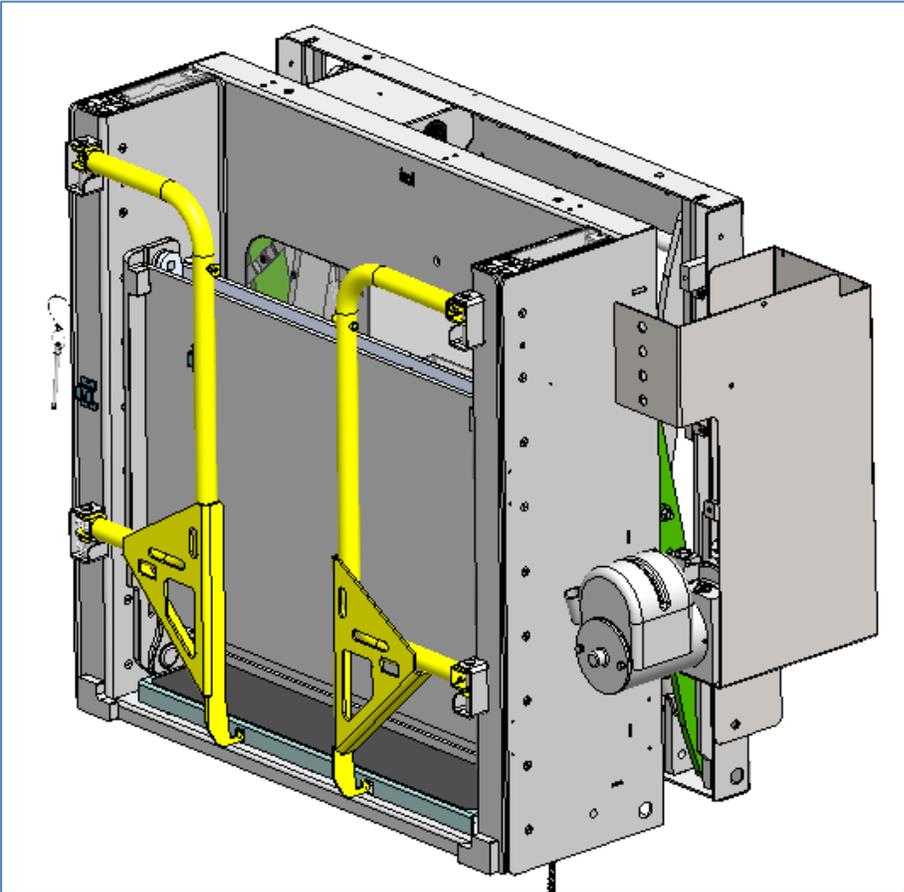

Figure 20
- 15) Press the STOW push button to retract the platform back to lift's stowed position. See Figure 20. Turn off the control pendant.